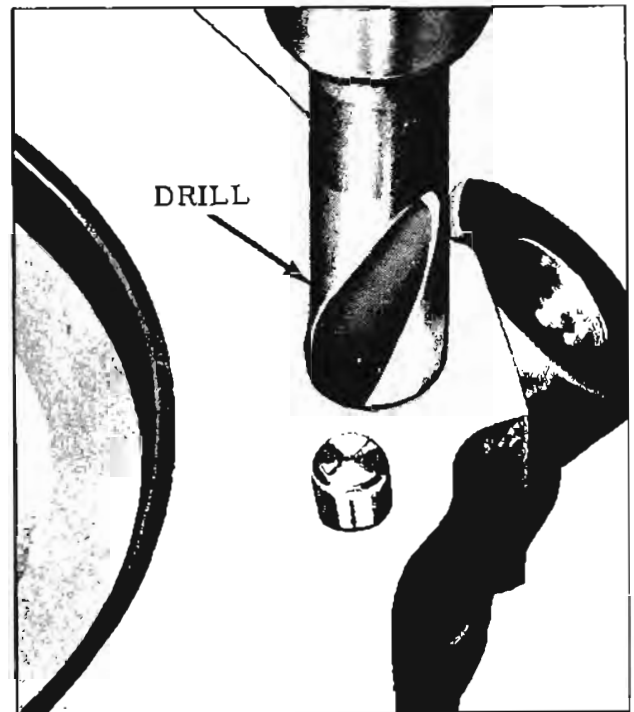

Fig. 8-156 Removing Damaged Threads
1. Drill out the old threads, bolt or stud, (if any), using the proper size drill as indicated on the instruction sheet in the Heli-Coil Kit. (Fig. 8-156)